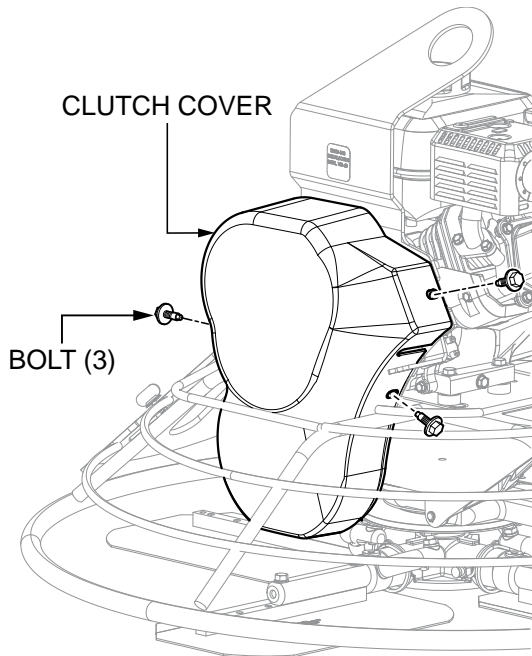

Figure 14. Clutch Cover Removal
4. Using a 7/16" wrench, remove the three 1/4" retaining bolts that secure the clutch cover to the frame (Figure 14).